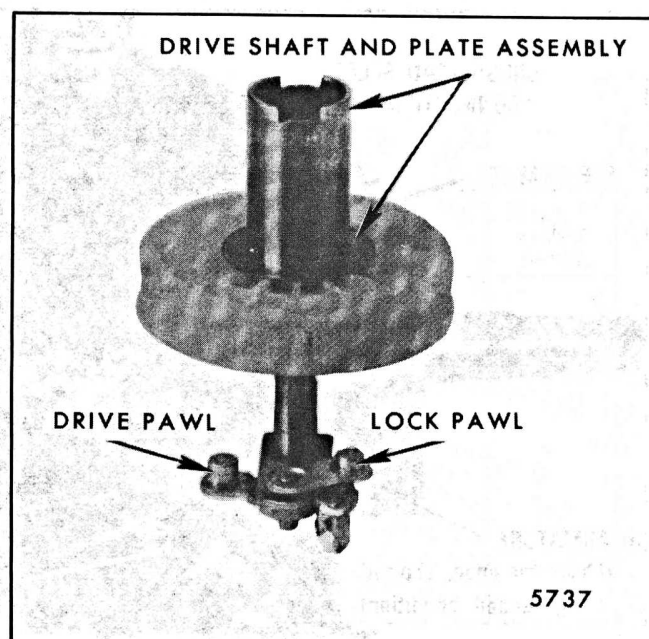

Fig. 2-108-Gear Removed
3. Slide drive plate and shaft out of gear and tube (Fig. 2-108), and remove the drive pawl, lock pawl and coil spring as required. Save the inside spacer washer for reassembly.
1. Position drive and lock pawls on drive plate as shown in Figure 2-108.
2. Slide gear and tube over the drive plate shaft. Move drive and lock pawls as required to allow their respective pins to fit in the gear guide channel (Fig. 2-108).